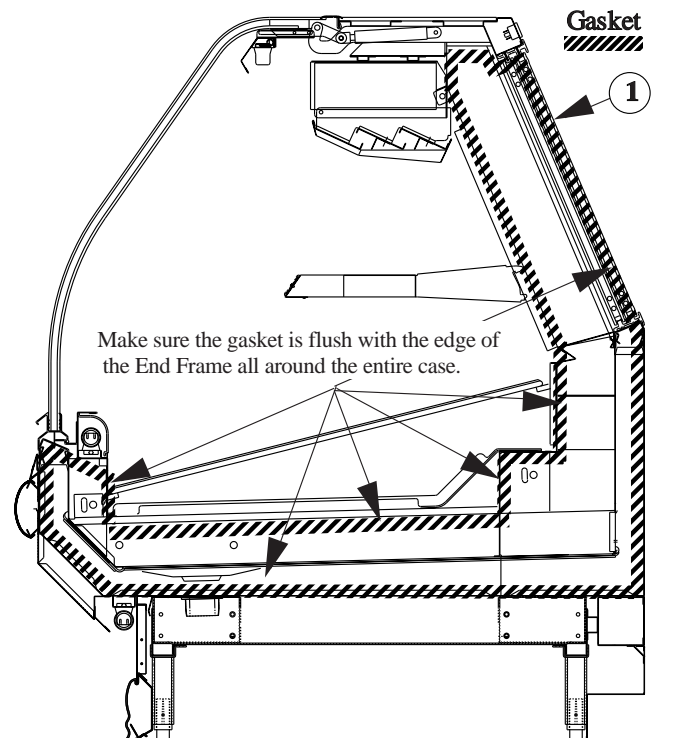

Figure 1. Installing Gasket
- A. Apply gasket so it is *flush* with the End Frame of the case leaving no gaps in compliance with NSF® (National Sanitation Foundation). See Figure 1.